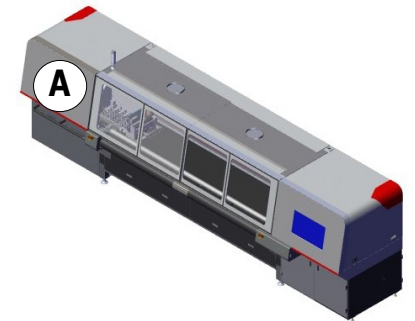

Figure 6-3 Printer Front View
2. Open carriage access door, Figure 6-3 location (A), to access the printer carriage. Filters are located on the carriage cover, front and top.